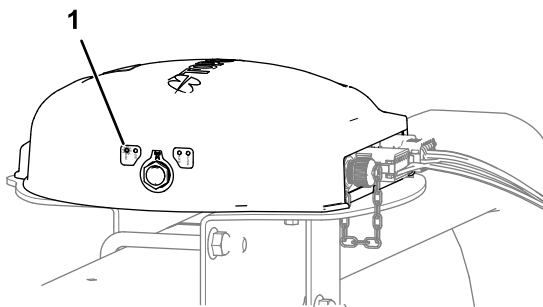

Figure 195
- Satellite receiver—the PWR indicator illuminates (Figure 195)